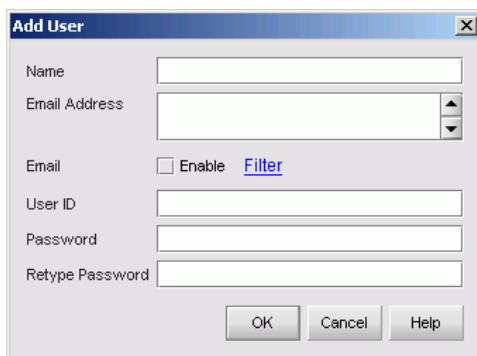

Figure 2-70 Add User Dialog Box
5. Click *Add*. The *Add User* dialog box displays (Figure 2-70).